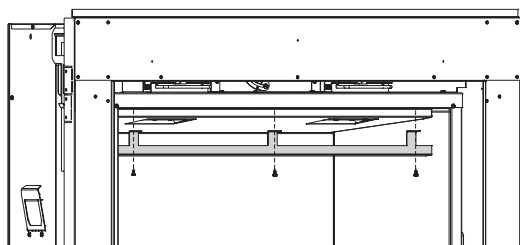

Figure 76
3. Remove the top liner bracket and top liner **See Figures 76 and 77.**